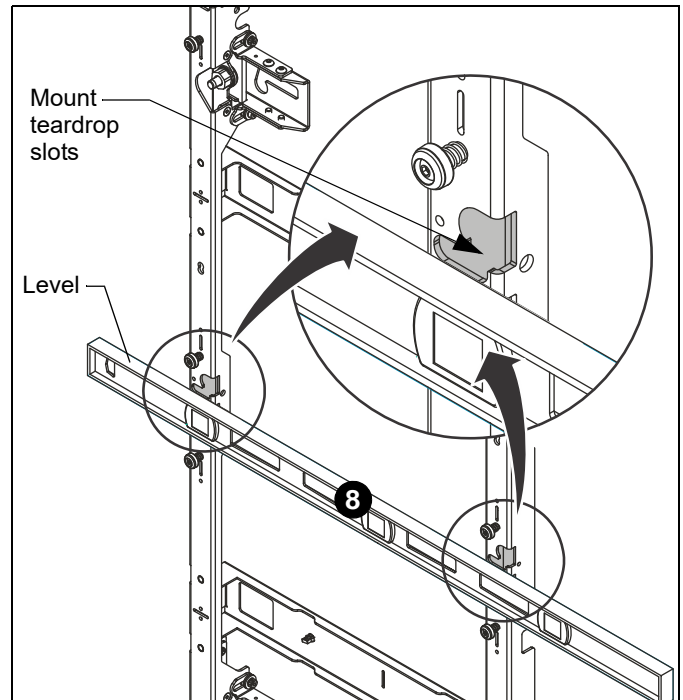

Figure 7
- Place a level across front of the mount at bottom of teardrop slots. (See Figure 7)
- Check the level of the mount at the teardrop slots. (See Figure 7)